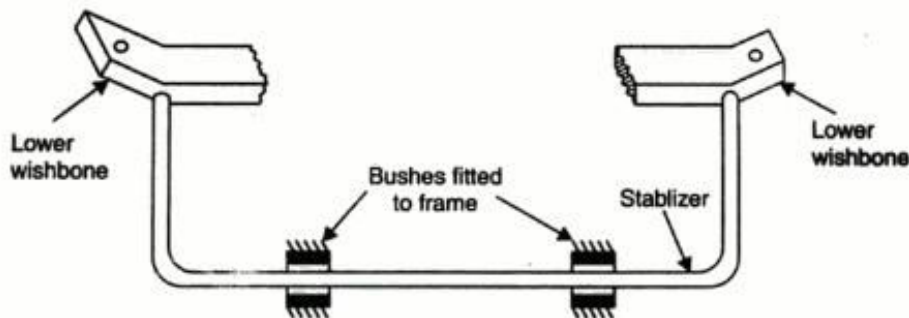

Fig. 6.35. Stabilizer.
- A **stabilizer or a sway bar** (Fig. 6.35) is simply a bar of alloy steel with arms at each end connected to the lower wishbone of the independent suspension or axle. It is supported in bush bearings fixed to the frame, and is parallel to the cross member.